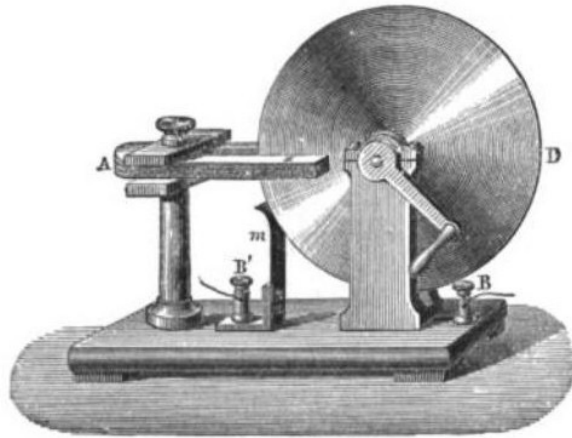

Figure 1: Michael Faraday's Disk Generator (Credit: Émile Aiglave Wikimedia Commons Author, Public Domain - Published in USA before 1923 [8])
- Faraday's initial handheld device as shown on Figure 1 looks nothing similar compared to today's generators shown on Figure 2.